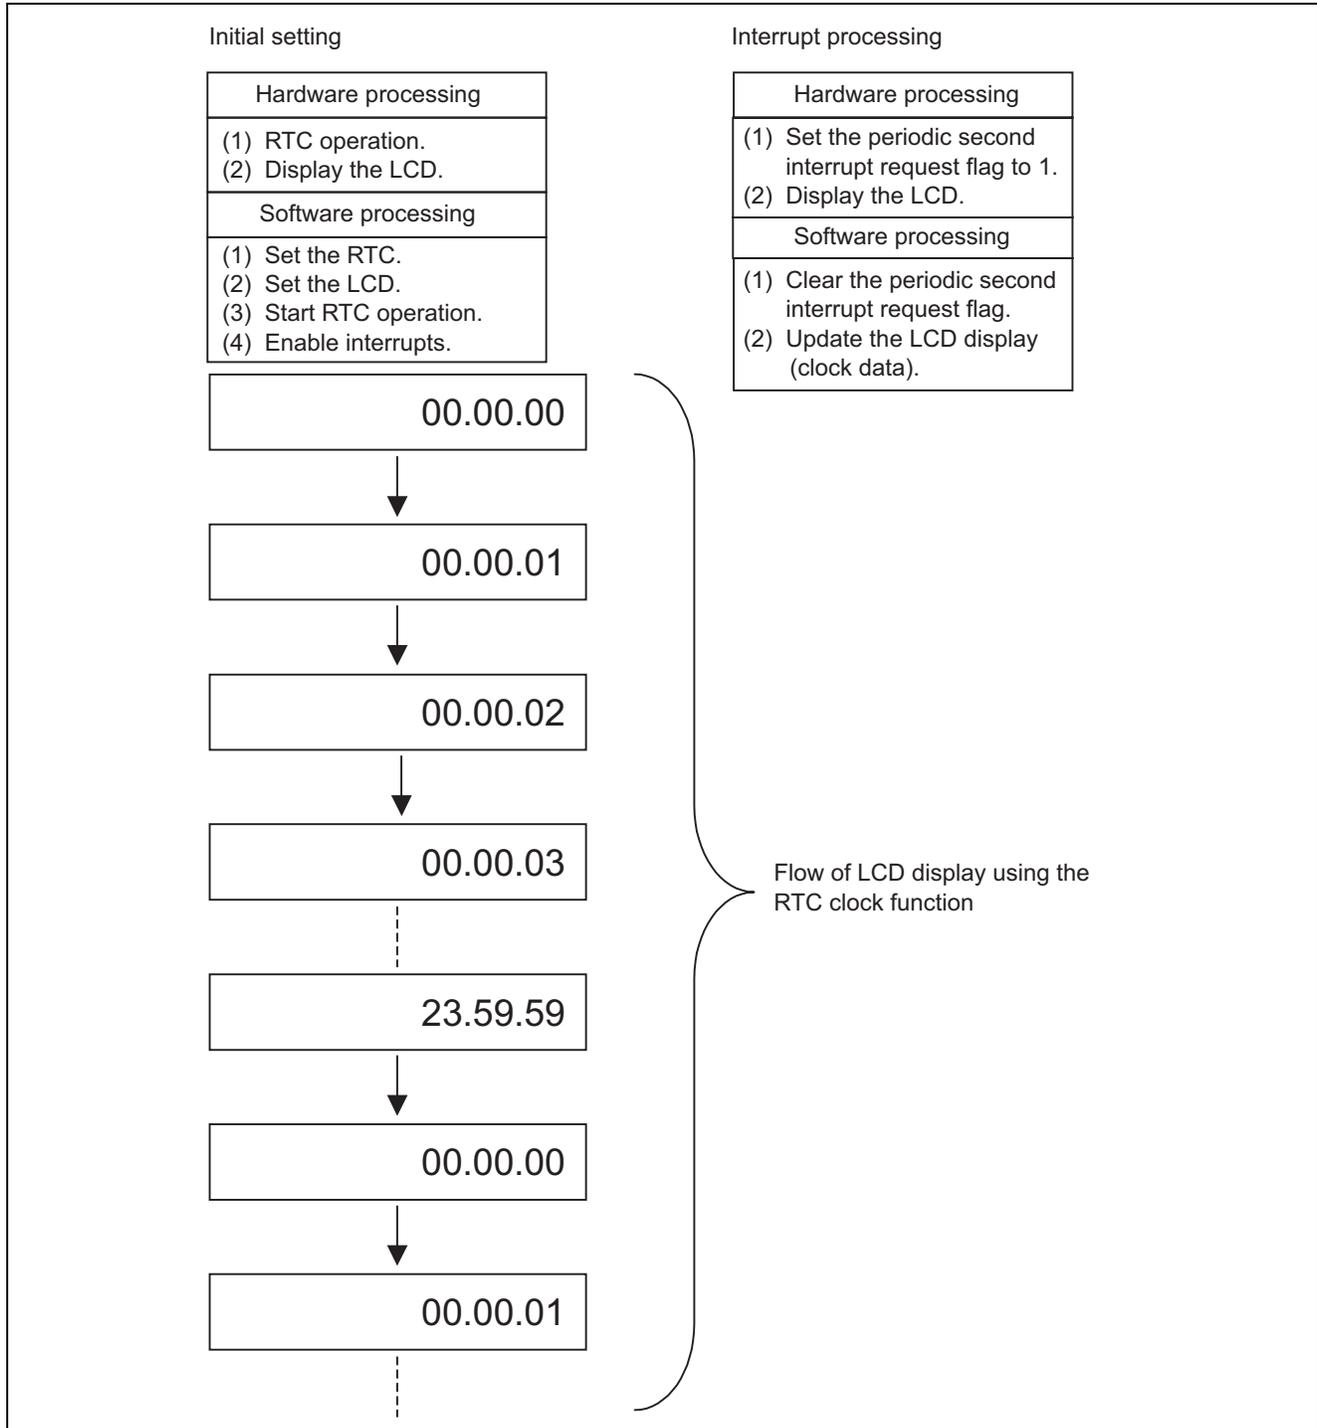

Figure 4 Principles of Operation
- Figure 4 describes the operation. By hardware and software processing as shown in the figure, the RTC clock function and LCD controller/driver function are used to display the time on the LCD panel. The clock function counts up at intervals of 1 second and the time is displayed on the LCD panel in the 24-hour mode.